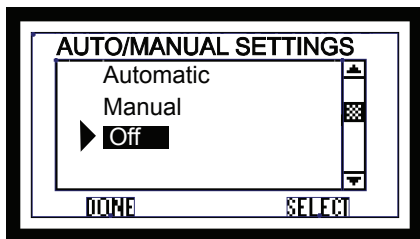

Figure 26.1
1. Set wall control to OFF on AUTOMATIC / MANUAL SETTING screen (**Figure 26.1**).
- After servicing, restart with the AUTO/MANUAL SETTINGS screen (**Figure 26.1**).